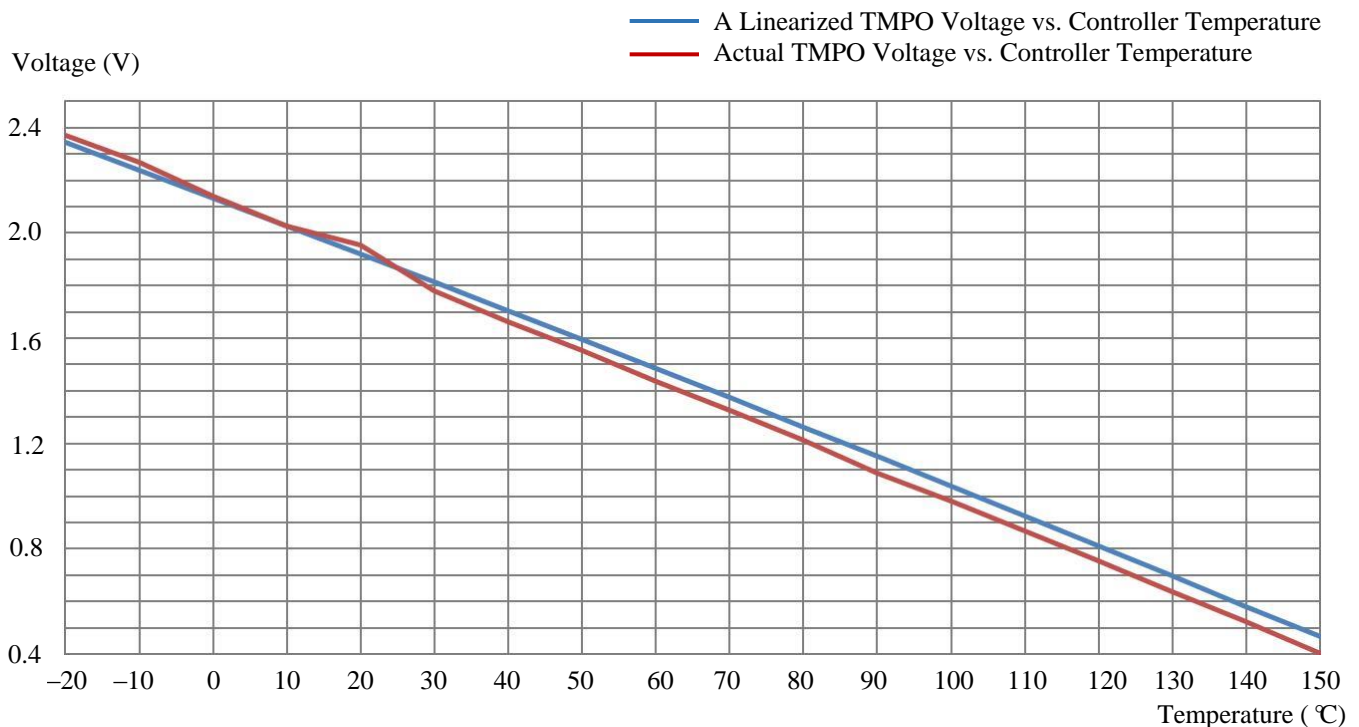

Figure 18. Controller Internal Temperature vs. TMPO Voltage
Within the most commonly used temperature range of between 0°C to 100°C, the approximated data obtained by using the linear equation (1), The curves of the 2 sets of the data are plotted in Figure 18.